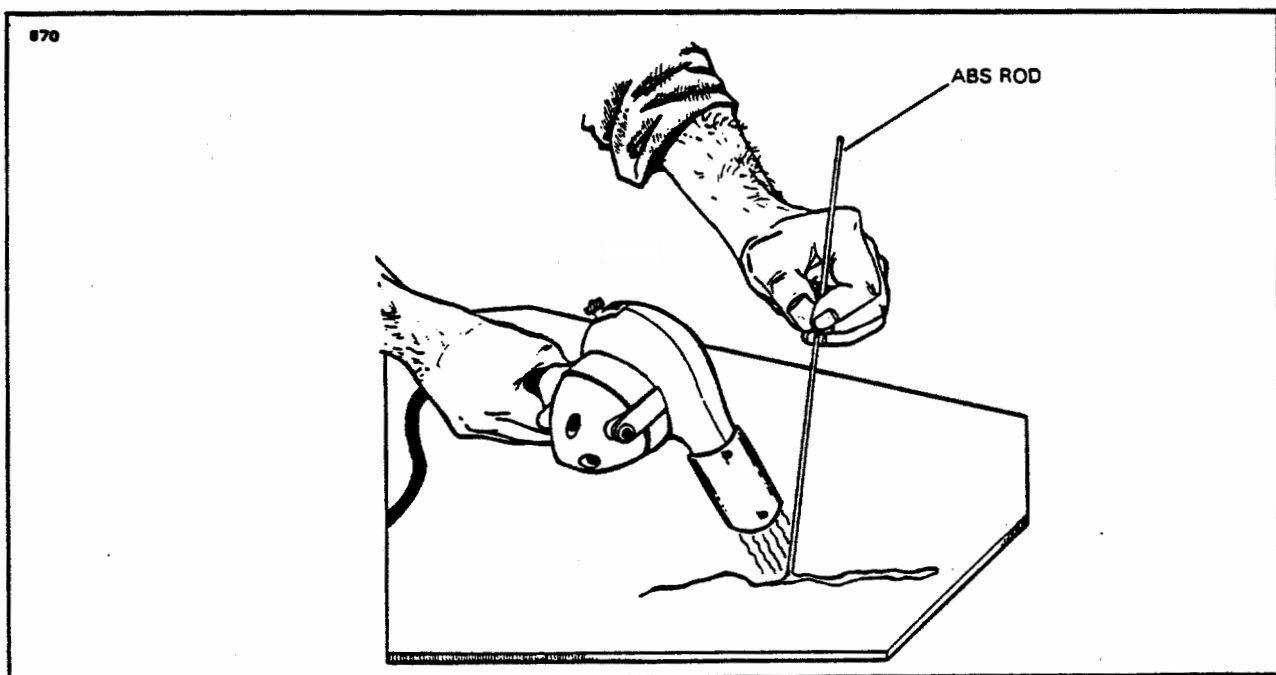

Figure 4-11 Welding Repair Method
10. This welding method requires a hot air gun and ABS rods. To weld, the gun should be held to direct the flow of hot air into the fusion (repair) zone, heating the damaged area and rod simultaneously. The gun should be moved continuously in a fanning motion to prevent discoloration of the material. Pressure must be maintained on the rod to insure good adhesion. (Refer to Figure 4-11.)